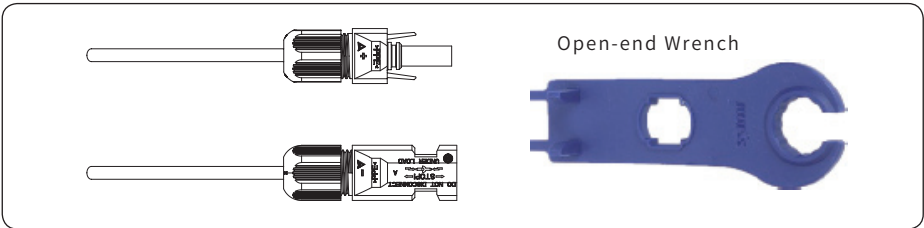

Figure 4-11
6) Use an open-end wrench to screw the nut to the end to ensure that the terminal is well sealed, as shown in Figure 4-11: